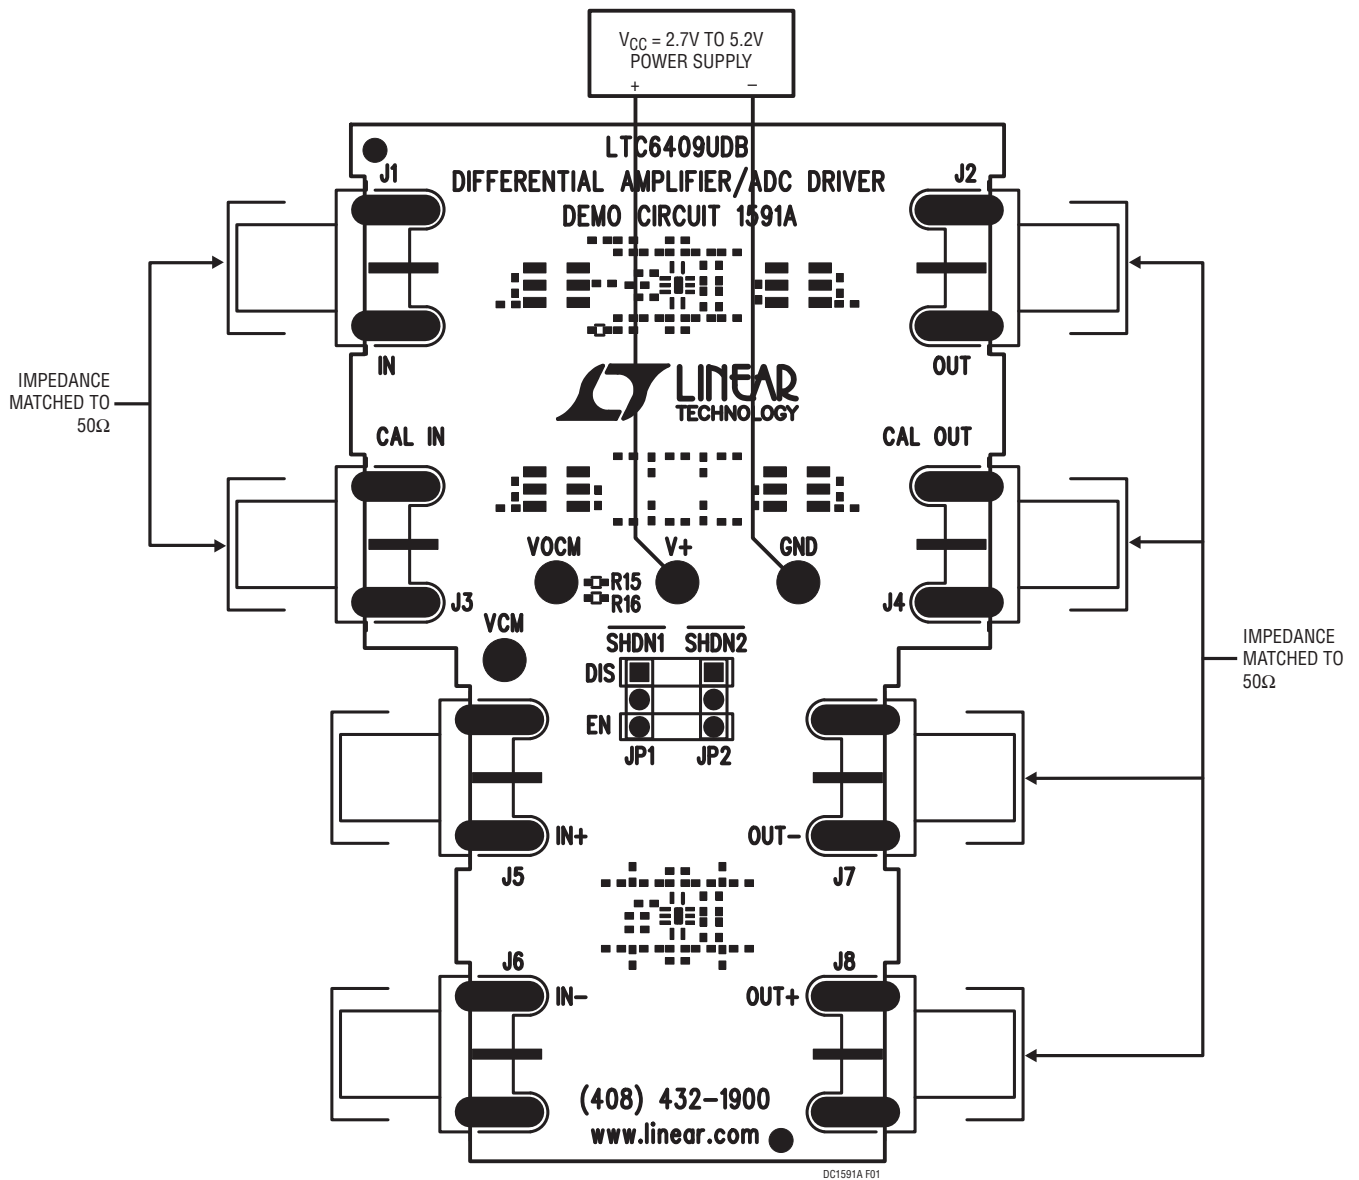

Figure 1. Proper Measurement Equipment Setup
Table 1 shows the function of each SMA connector on the board. Refer to Figure 1 for the connection diagram and follow the procedure below:
1. Connect the power supply to V+ and GND as shown in Figure 1. Typical current consumption of each LTC6409 is about 52mA. Jumper JP1 enables or shuts down the single-ended amplifier.
2. The power supply voltage range is shown in Figure 1. **Do not exceed the maximum power supply voltage rating for the parts.**